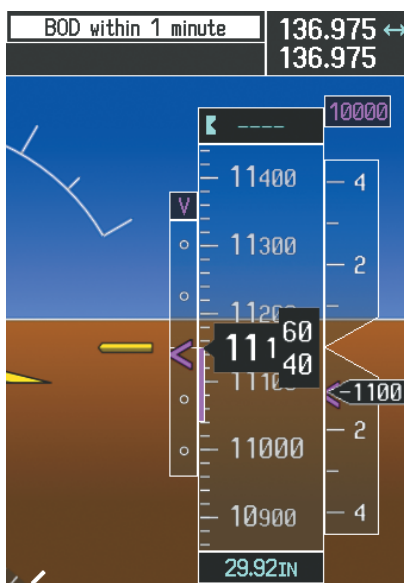

Figure 5-135 Approaching Bottom of Descent (BOD) at OPSHN Offset Waypoint
- 17) When the aircraft is one minute from the bottom of descent (BOD) it is annunciated as shown in Figure 5-135. Upon reaching the offset waypoint for OPSHN, the aircraft is at 10,000 feet.